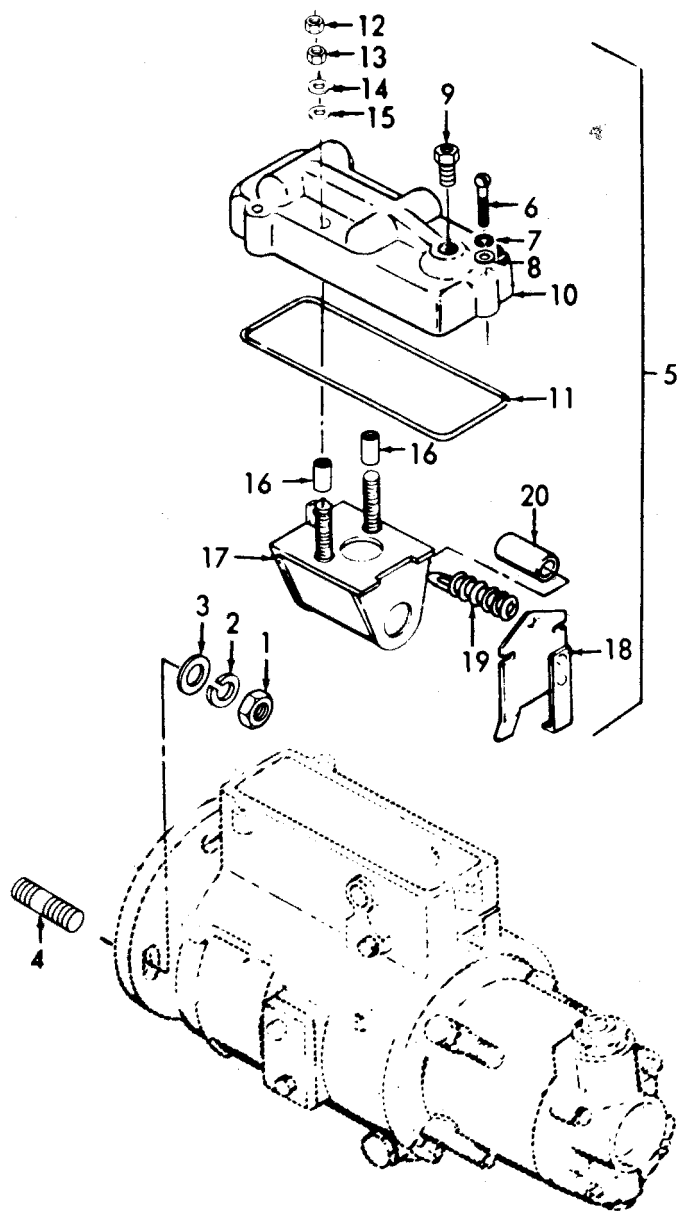

Figure 8-6. Fuel Injection Pump Governor.
- (5) Remove screws (6), timing line cover (7), and gasket (8).
- (6) Turn the engine over in the direction of rotation until the timing line on the governor retainer hub aligns with the timing line on the pump cam.
- (7) Remove bolts and lockwashers securing thrust plate to gear housing cover. Remove thrust plate and discard gasket.
- (8) Remove thrust plug and spring from fuel pump drive shaft.
- (9) Remove nut and washer that secure fuel pump drive gear to pump drive shaft.
- (10) Remove nuts (9) and lockwashers (10).
- (11) Disengage pump from gear housing approximately 1/4-inch. Using a soft hammer, tap injection pump drive shaft to remove pump from drive gear.
- (12) Carefully slide fuel injection pump from the timing gear housing.
- b. Disassembly (Refer to figures 8-6 through 8-12).
- (1) Mount the pump in holding fixture and secure.
- (2) Remove three screws (6, figure 8-6) and remove cover containing solenoid.
## LEGEND FOR FIGURE 8-6: